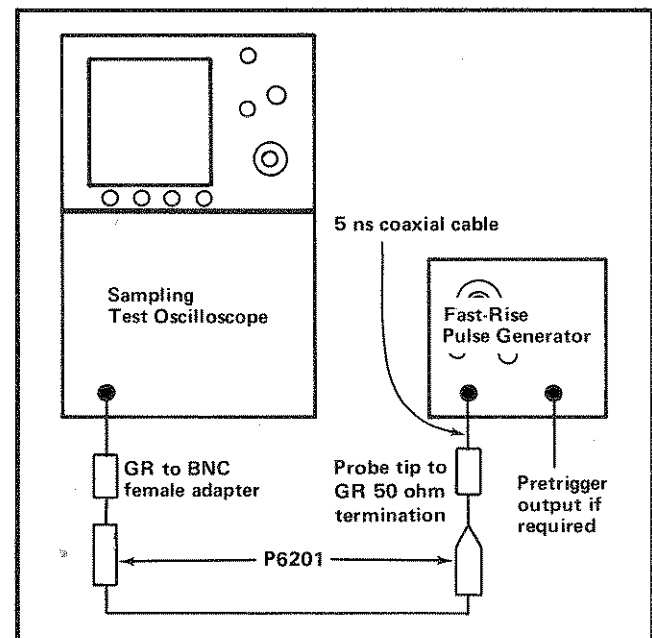

Fig. 5-7. Equipment setup for steps 7 and 8.
a. Connect the equipment as shown in Fig. 5-7.